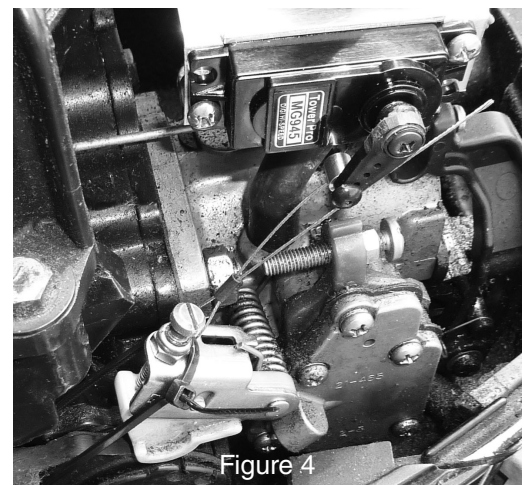

Figure 4
- Fig. 4 - Use supplied screws and locking nuts to attach servo to bracket.
- Install servo arm as shown in Fig. 4 & 5. Install fixing screw to servo arm.
Step 13: See Fig. 4, 5 & 6